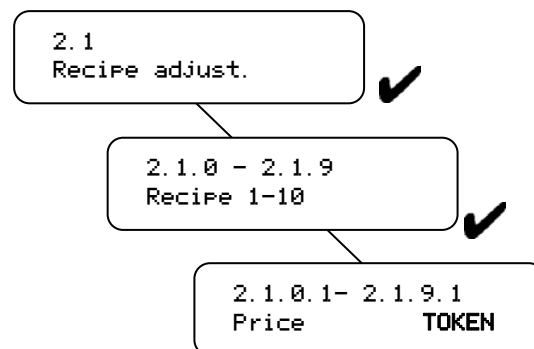

Fig. 25
- Set price (fig. 25) for TOKEN in menu item 2.1.0.1 until 2.1.9.1 in block the € 0,05 until € 2,00 with the help of the DIL-switches on the coin mechanism and use table below.